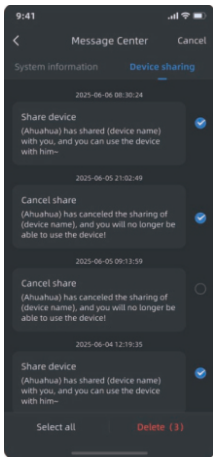

Figure 4
- 4) Figure 4: Click on **"Delete"** in the upper right corner to select some or all messages for deletion, but it will not affect the shared devices.